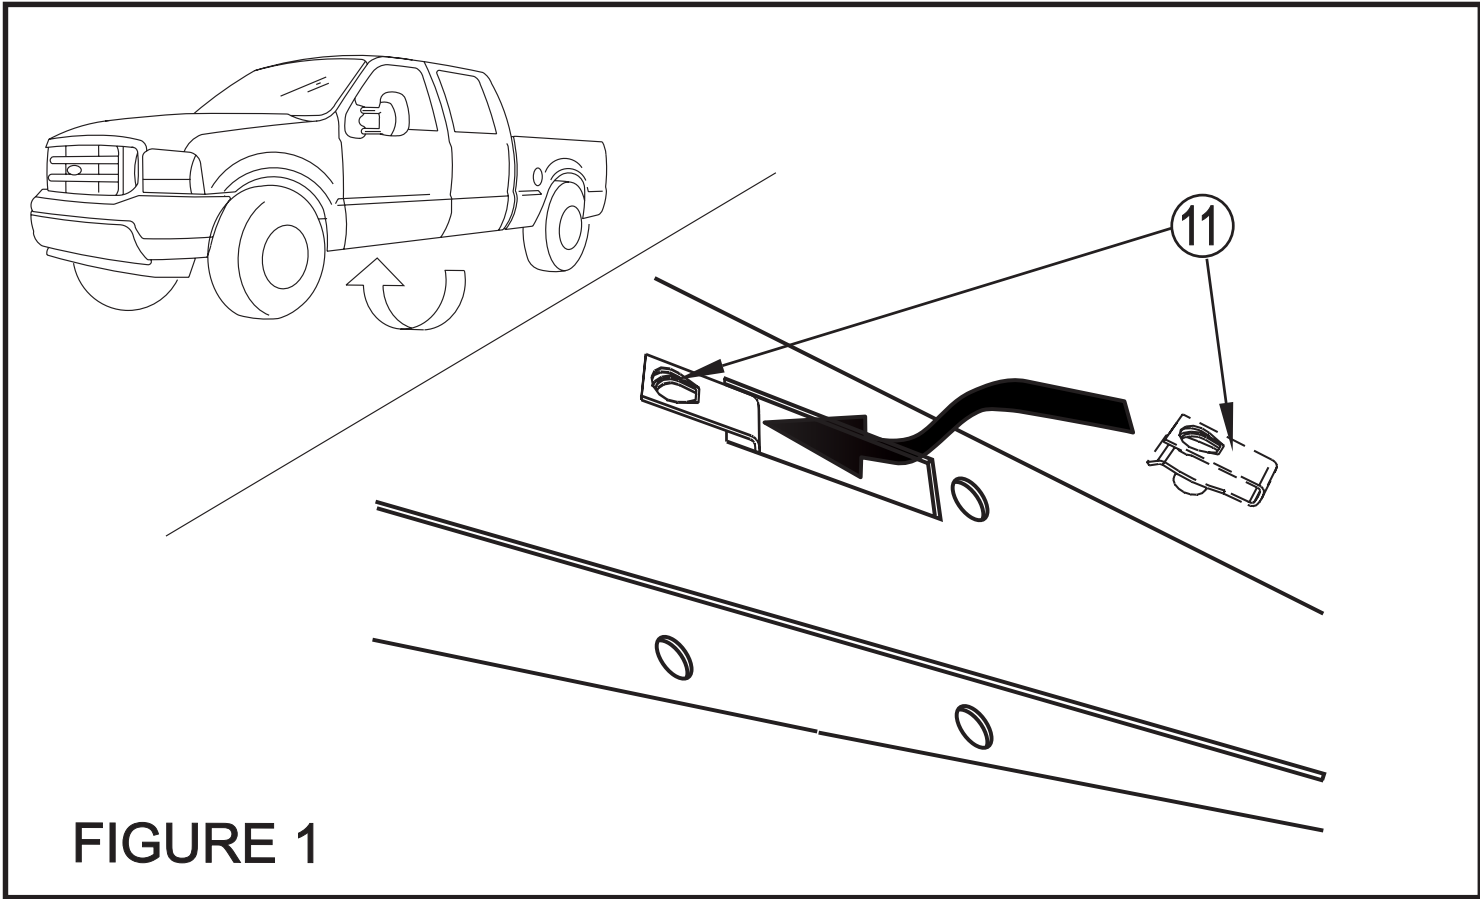

FIGURE 1
- STEP 2. Insert nut clips into rocker panel as shown. **SEE FIGURES 1 AND 2.**